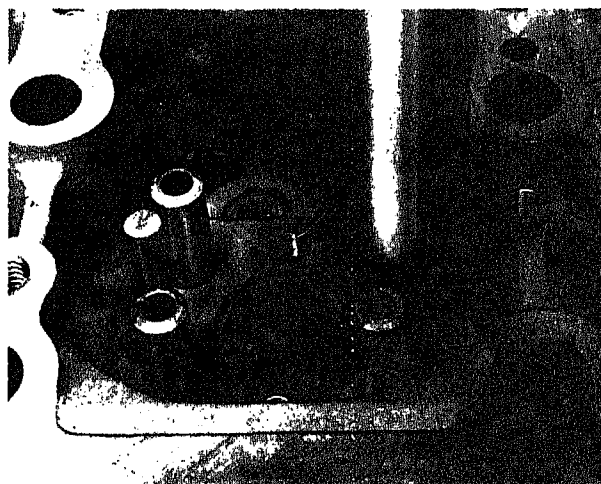

Fig. 2-4-2. Installing crosshead guide
2. Press in new solid guides to 1.540/1.550 in. [39.1160/39.3700 mm] assembled height. Fig. 2-4-2.